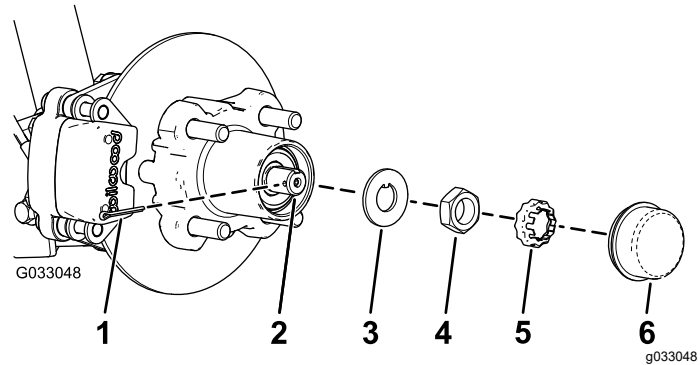
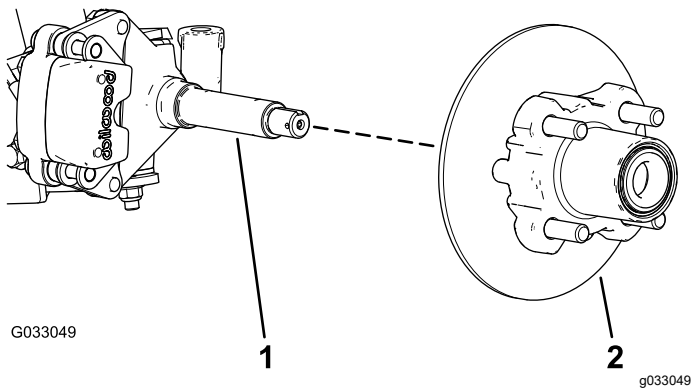

Figure 26
Figure 27
4. Remove the dust cap from the hub (Figure 26).
5. Remove the cotter pin and nut retainer from the spindle and spindle nut (Figure 26).
6. Remove the spindle nut from the spindle, and separate the hub and rotor assembly from the spindle (Figure 26 and Figure 27).